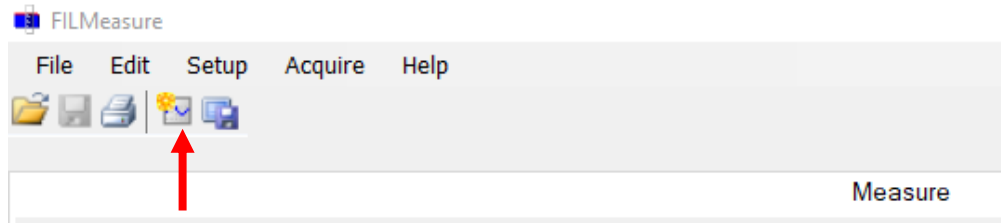

Figure 5. “Clear Graph” Icon of FILMeasure Software
- Click the “Measure” tab. If there is any previous data, click the “Clear Graph” icon (the 4th one on top) as shown in Figure 5.